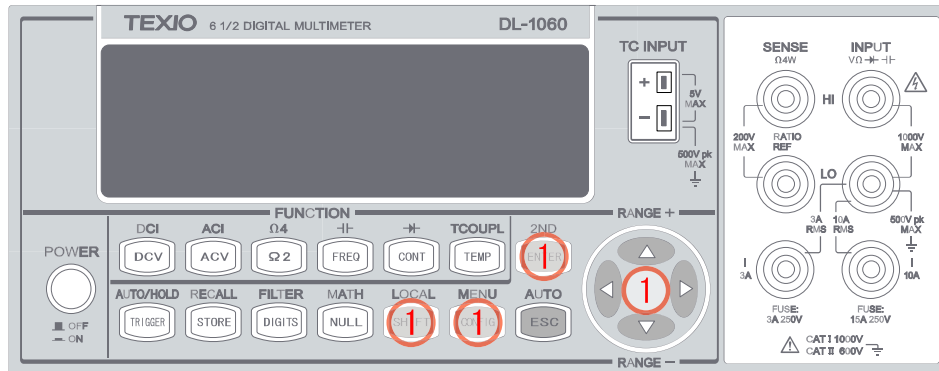

Figure 3-30
1. Do the procedure SHIFT + CONFIG buttons > SYSTEM > ENTER > DISPLAY > ENTER > ON/OFF > ENTER to enable/disable the display as shown in **Figure 3-30**.